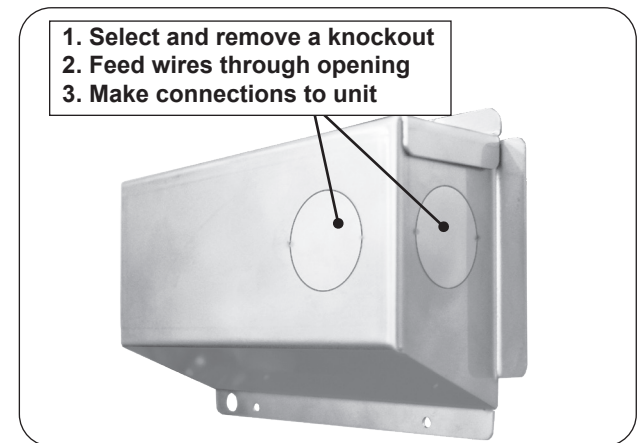

Fig. 33-2 Junction box knockouts
2. Remove the junction box located on the rear of the unit. Select and remove a knockout from the junction box that will best suit your electrical setup. See Fig. 33-2.